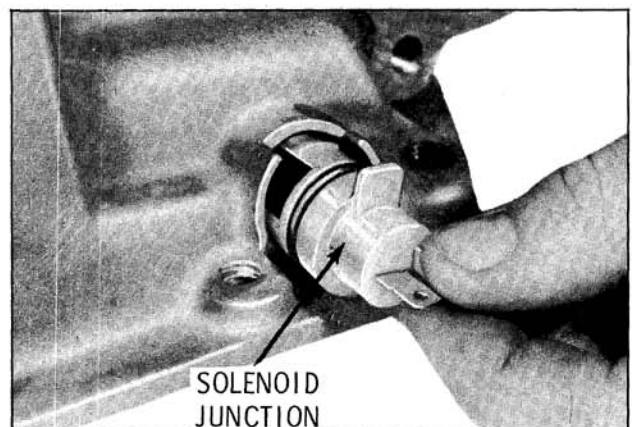

Fig. 6-351 Removing Solenoid Junction
2. Remove solenoid junction from case. Inspect switch "O" ring. If nicked, torn or worn replace. (Fig. 6-351)